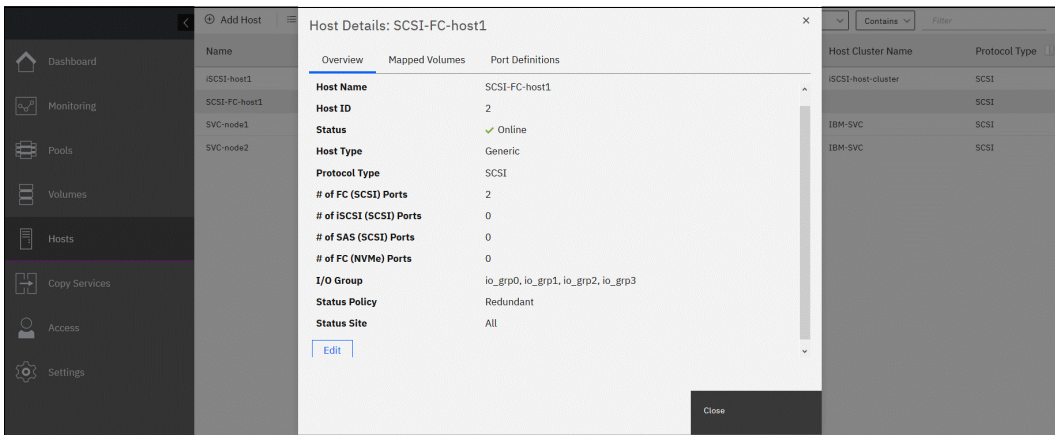

Figure 7-55 Host properties overview
2. The Host Details window (see Figure 7-55) opens and three tabs are shown: Overview, Mapped Volumes and Port Definitions: